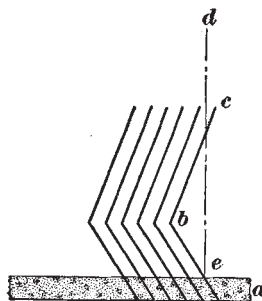

FIG. 3
5. Clothing for the Fancy.—Fig. 3 shows a section of a piece of card clothing such as is used for covering the fancy. The wire is longer than the ordinary tooth and more flexible, and the knee is lower, because the fancy is set into the teeth of the main cylinder and acts as a brush. The knee is often made even lower than is shown. It will be noticed that the point of the tooth of the fancy clothing in the illustration projects beyond the perpendicular. This is not a disadvantage unless the bend is extreme, for as the teeth on this roll do not engage with the wool, there is no danger of the point of the tooth being lifted, owing to the direction of rotation and surface speed of the fancy; however, if the bend at the knee is extreme, the fancy will pack the main cylinder with wool.